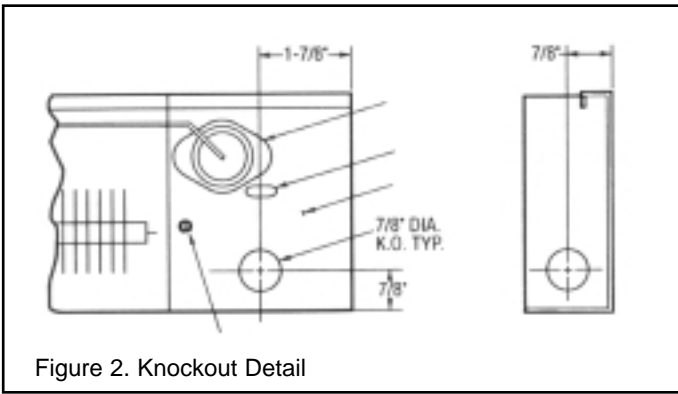

Figure 2. Knockout Detail
1. Remove left and right junction box covers (1) by removing screws (2).
2. Deflect spring clips (3) and lift front cover (4) off brackets (5). Carefully remove protective packing from element area.
4. Bring in power supply to selected knockout in junction box (6, Figure 2).
- Fasten heater to wall, using the slotted mounting holes (11) located in each junction box. See Figure 2. The following ways of mounting heaters to common types of wall surfaces are suggested:
- Fasten heater to wall using the slotted mounting holes (11) located in each junction box. See Figure 2. The following ways of mounting heaters to common types of wall surfaces are suggested: